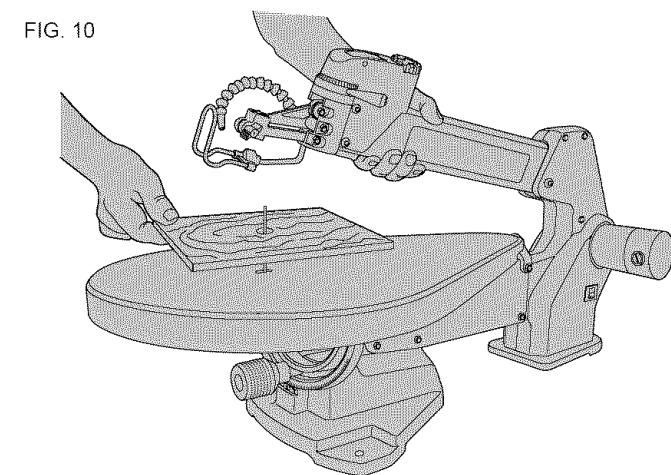

FIG. 10
4. Leaving the blade held in place by the bottom blade clamp, lift the top arm of the scroll saw, as shown in Figure 10. Thread the saw blade through the pilot hole in your workpiece and reattach the blade by tightening the top thumbscrew.